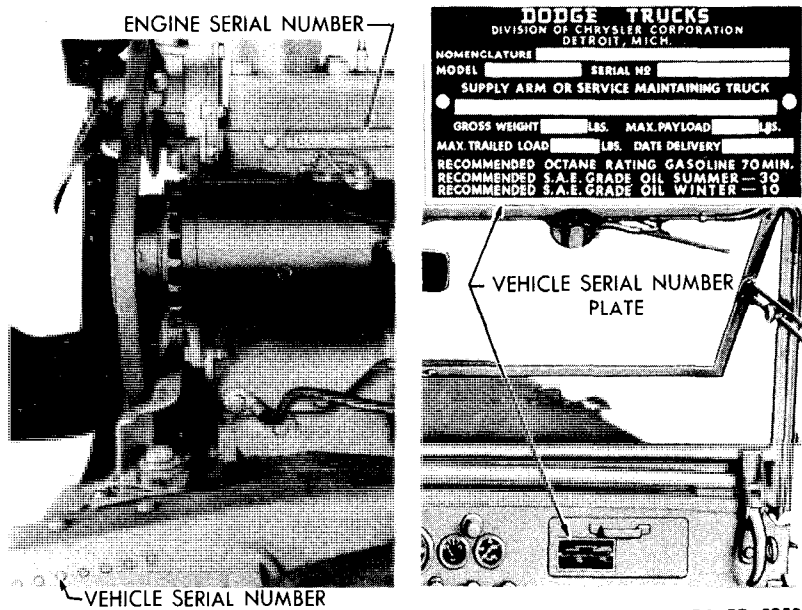

Figure 1—Engine and Vehicle Serial Numbers
b. **Engine and Vehicle Serial Numbers** (fig. 1). The engine number is stamped on a boss on the left side of the engine block opposite number one cylinder. The letter on the circular bosses on the block are for the use of factory inspectors only and are not to be used with the engine number. The vehicle serial number is stamped on a plate which is attached to the face of the instrument panel and on the left frame side member just forward of the front axle. Engine numbers for the $\frac{3}{4}$ ton 4 x 4 trucks start with number T214-1001 and vehicle serial numbers start with number 81,534,381. Engine numbers for the 1½ ton 6 x 6 trucks start with number T223-1001 and vehicle serial numbers start with number 82,000,001.